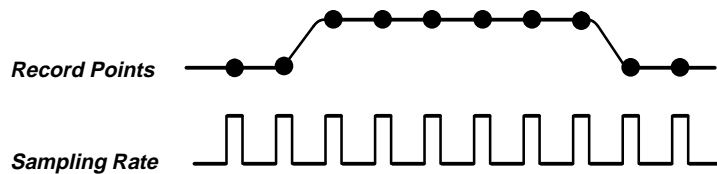

Figure 2-6: Real-Time Sampling
**Real-Time Sampling**—In real-time sampling, the oscilloscope digitizes all the points it acquires after one trigger event (see Figure 2-6). Use real-time sampling to capture single-shot or transient events.